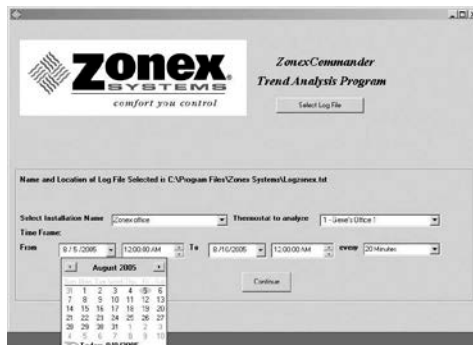

Fig. 33
- A calendar resides in the trending software package (see Fig.33). Enter the From/To date and time range you want to review.